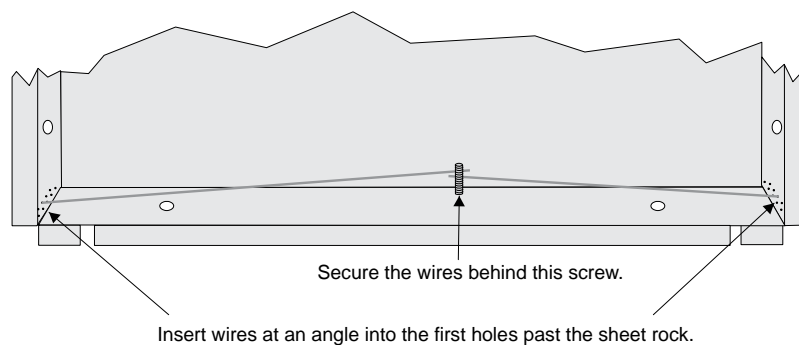

Figure 4-22 Flush Mounting the Back Box
3. Fit the annunciator back box into the hole and stabilize with mounting wires. Angle the mounting wires into the first hole past the sheet rock. Secure the wires behind the screws as shown in Figure 4-22. When all four wires are in place, the back box should fit snugly into the hole in the sheet rock.